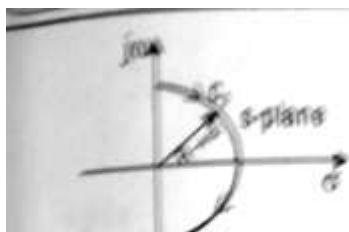
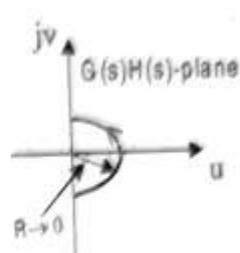

Fig 4.18.4 : Section C_2 in s -plane
Fig 4.18.5 : Mapping of section C_2 in $G(s)H(s)$ -plane
From the equations (1) and (2) we can say that section C_2 in s -plane (fig 4.18.4) is mapped as circular arc of zero radius around origin in $G(s)H(s)$ -plane with argument varying from $-\pi/2$ to $+\pi/2$ as shown in fig 4.18.5.